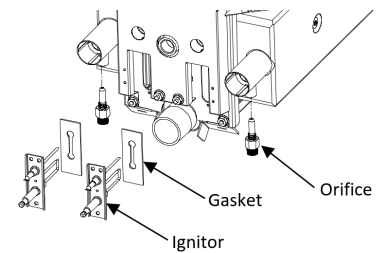

Figure 1
- 2) Remove the existing burner orifices and replace them with those in the kit (see Figure 1).